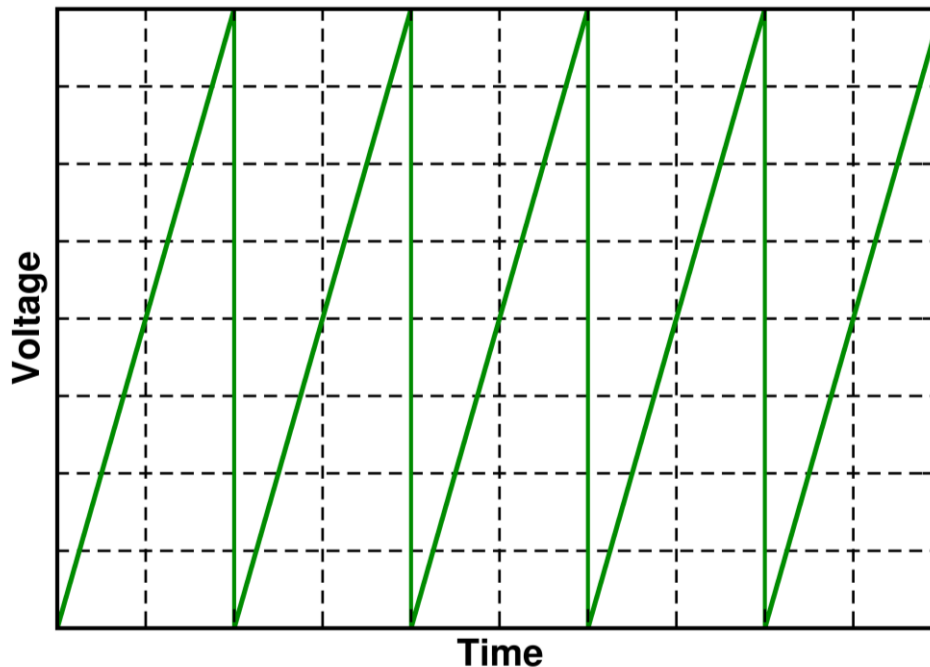

Figure 10.2: Example of a sawtooth wave.
- The internal mode: Once the internal mode is selected using the time base button, the x-axis will be connected to a sweep generator that periodically scans the x-axis with a constant velocity, such a sweep generator produces a “sawtooth” potential difference V_x which is connected to the horizontal deflection plates, this is shown in figure 10.2. Thus the x- axis becomes a time axis while the y-axis can receive inputs from any external source.